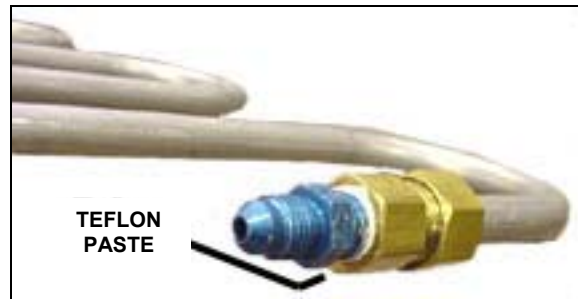

Figure 5
3. Apply a small amount of Teflon thread sealant on the pipe threads of the NPT to AN fitting (18). Tighten into the female threads of the compression fitting (see figure 5).